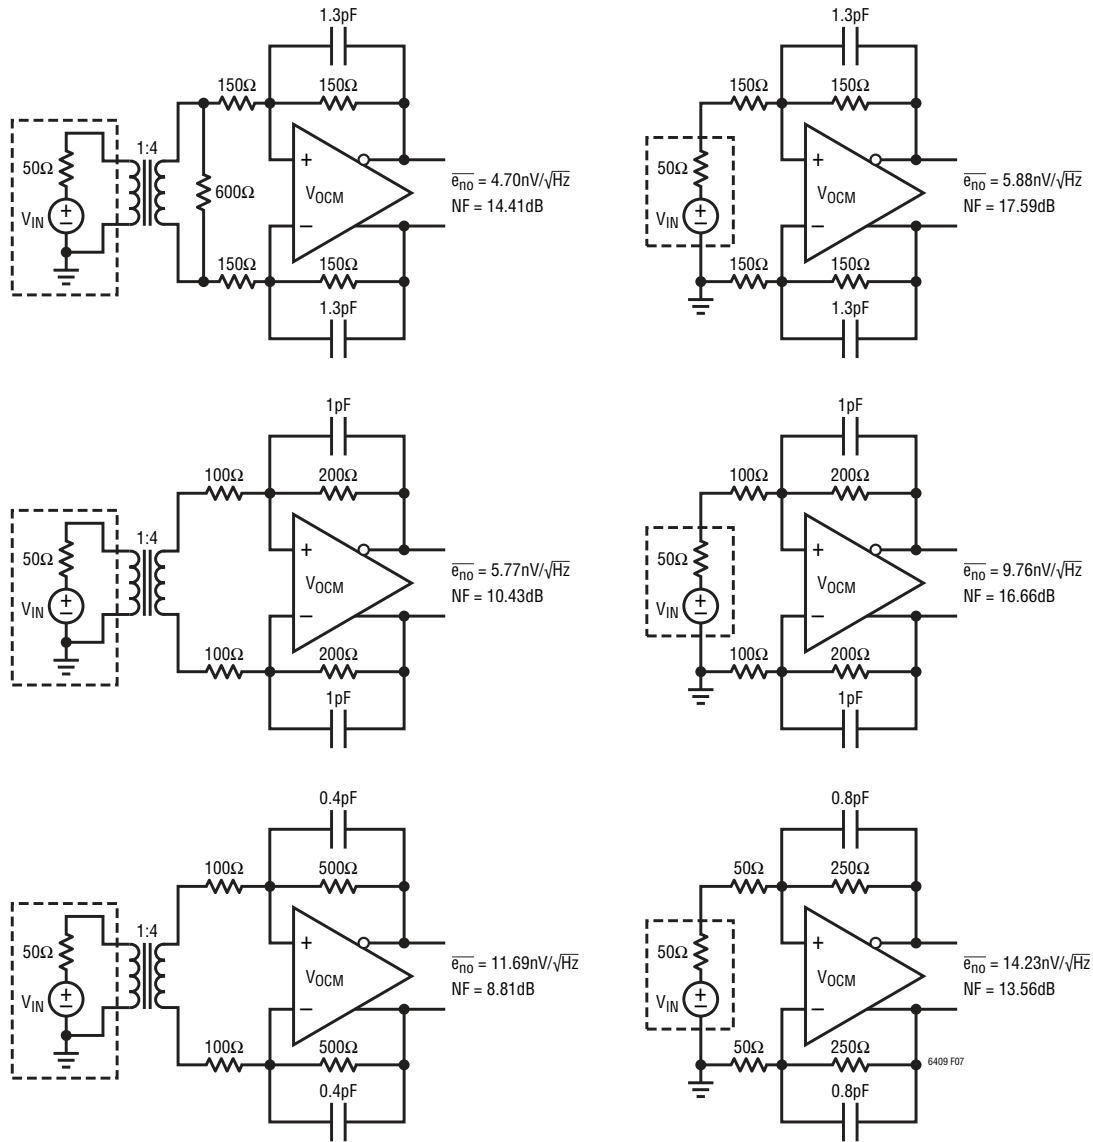

Figure 7. LTC6409 Measured Output Noise and Noise Figure at Different Closed Loop Gains with and without Source Impedance Matching
Figure 7 specifies the measured total output noise ( $e_{no}$ ), excluding the noise contribution of source resistance, and noise figure (NF) of LTC6409 configured at closed loop gains ( $A_V = R_F/R_I$ ) of 1V/V, 2V/V and 5V/V. The circuits in the left column use termination resistors and transformers to match to the 50Ω source resistance, while the circuits in the right column do not have such matching. For simplicity, DC-blocking and bypass capacitors have not been shown in the circuits, as they do not affect the noise results.